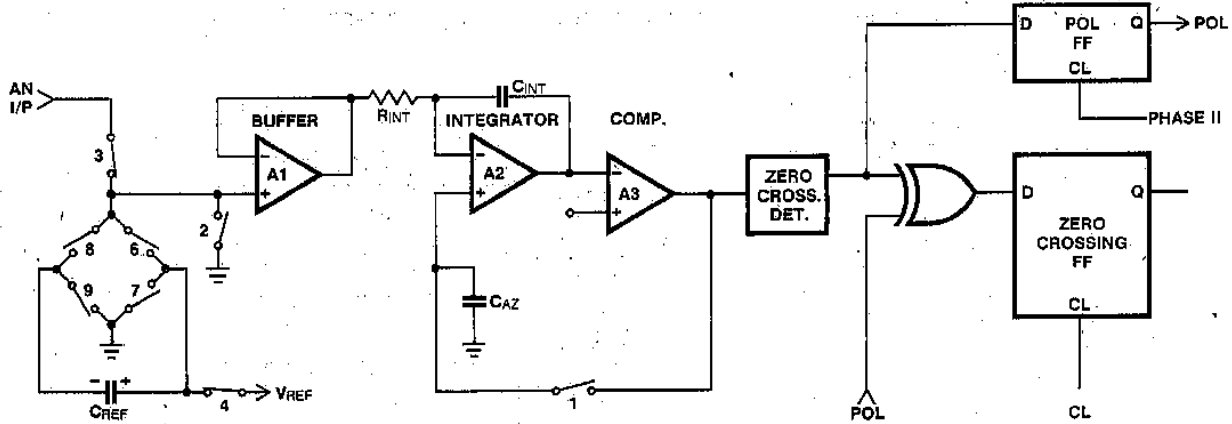

Figure 2B: Phase II Integrate Input
2. Input Integrate Phase II Fig. 2B